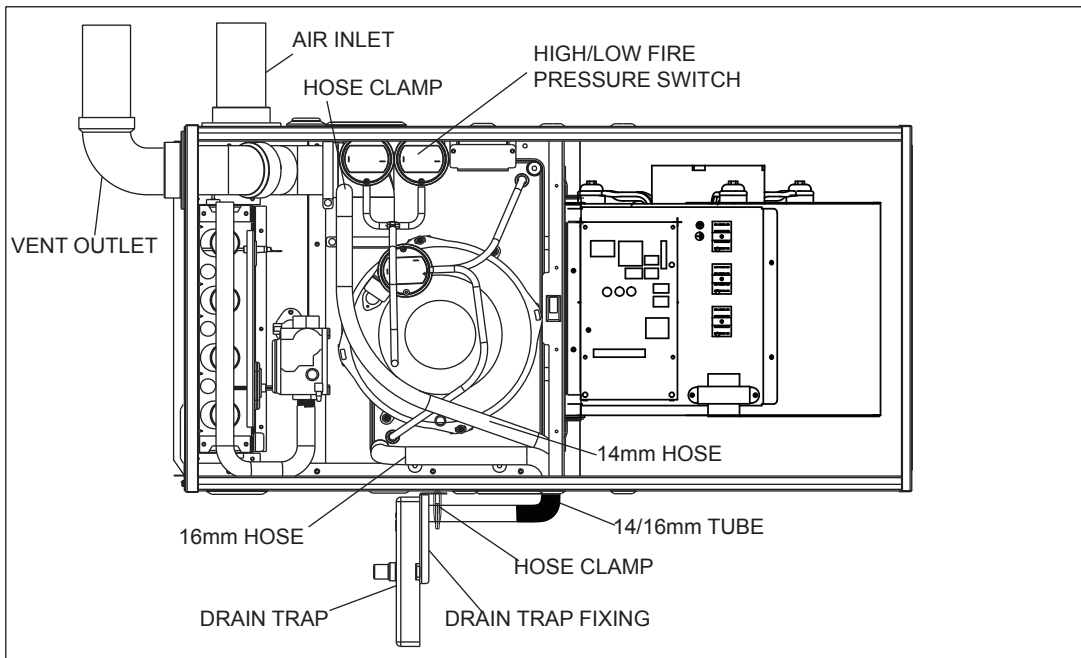
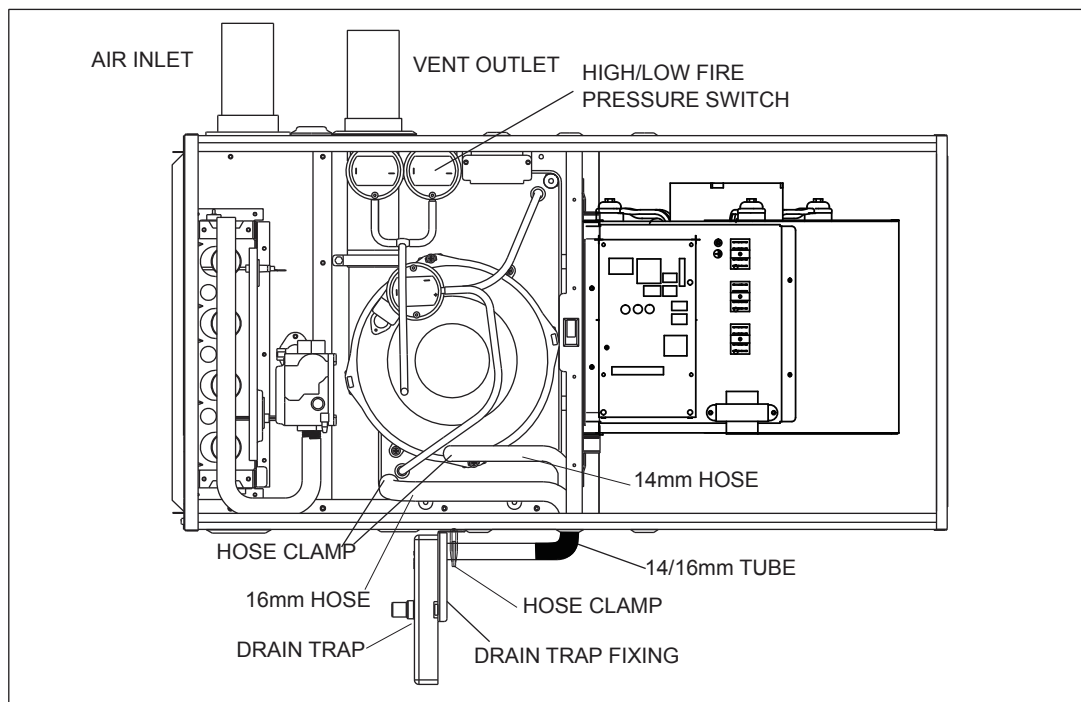
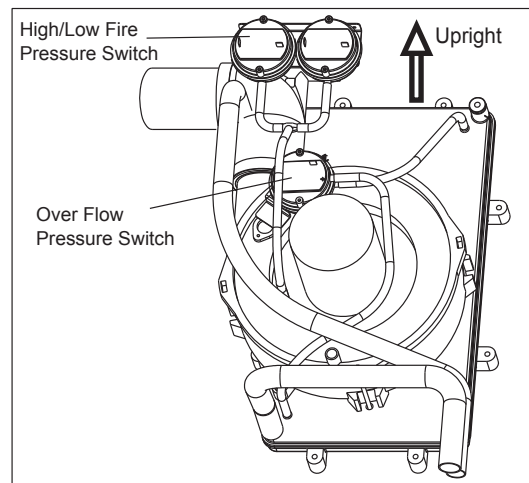

Fig. 14 - Horizontal Left Side Installation, Vent Through Top Panel
Fig. 15 - Horizontal Left Side Installation, Vent Through Side Panel
Fig. 16 - Pressure Switch Position
CAUTION: FOR HORIZONTAL LEFT INSTALLATION (AIR DISCHARGE TO THE LEFT), HOSES OF CONDENSATE OVERFLOW PRESSURE SWITCH NEED TO BE REROUTE. (SEE FIGURE 14&15)
2. Air discharge to the left and vent through furnace top panel (see Fig.14 and Fig. 16)
3. Air discharge to the left and vent through furnace side panel (see Fig. 15 and Fig. 16)
In this installation, hoses connecting between ports of overflow protection pressure switch (overflow switch) and pressure tabs on the collector box **MUST be switched**. The overflow switch has two ports, which is different from two other regular pressure switches that have only one port. Make sure that black port (positive) is connected to the lower position tap on condensate collector box and gray port (negative) to higher tap of condensate box. Connecting incorrectly will result in failure to protect condensate overflow. (See Fig. 16)